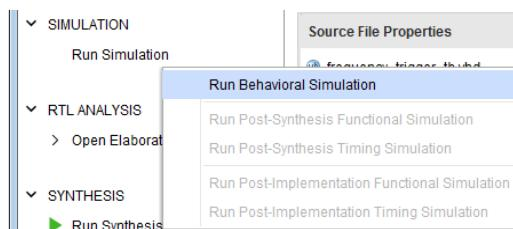

Figure 12.93: Run Behavioral Simulation option
3. Choose the only offered **Run Behavioral Simulation** option, see Figure 12.93, and your simulation will start.